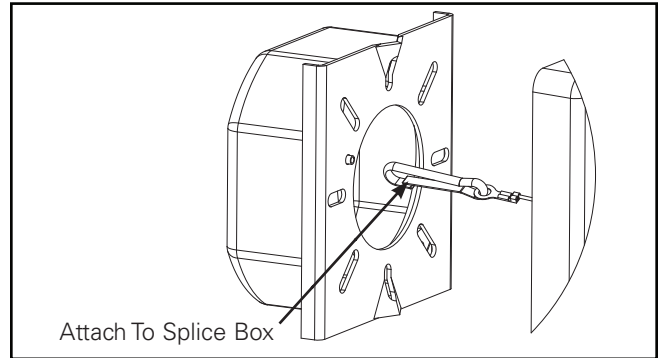

Figure 2.
2. Attach rear wall mount tether to splice box mounting screw (see Figure 2).